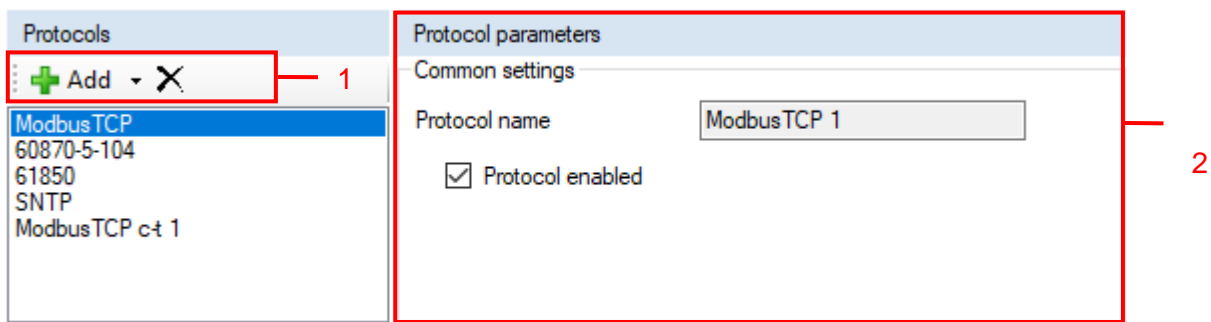

Figure 166 – Ethernet protocols tab
The tab is designed for configuring protocols. Adding and deleting protocols is carried out using buttons  and  (figure 166, item 1).
5.3.4.4.1 Configuring the ModbusTCP data transmission protocol (figure 166, item 2)